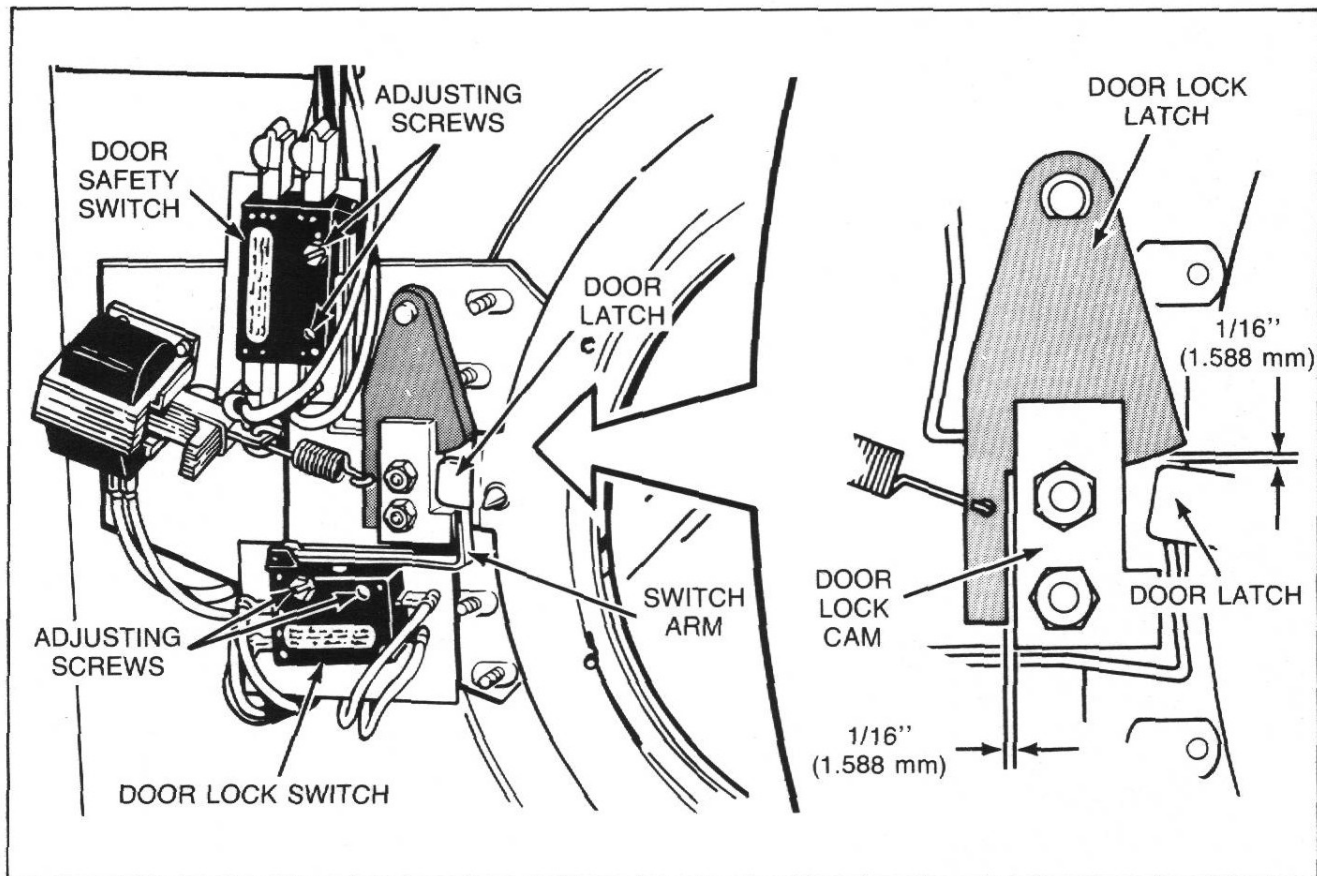

Figure 47
m. Loosen door safety switch attaching screws, *Figure 47*.
o. Loosen door lock switch attaching screws, *Figure 47*.